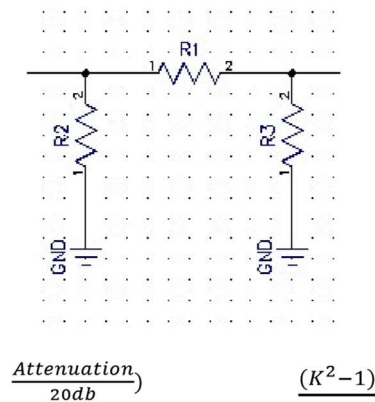

Figure 3. Power Divider PAD: PI Attenuator.
2. Note that the power input of the PA is 1mw RMS and 5mw PEP. Higher input power levels can be accommodated by adjusting R1, R2, and R3 on the input power PAD. Use an appropriate Pi-type Pad calculator to determine R1, R2, and R3 for higher powers as shown in Figure 3.